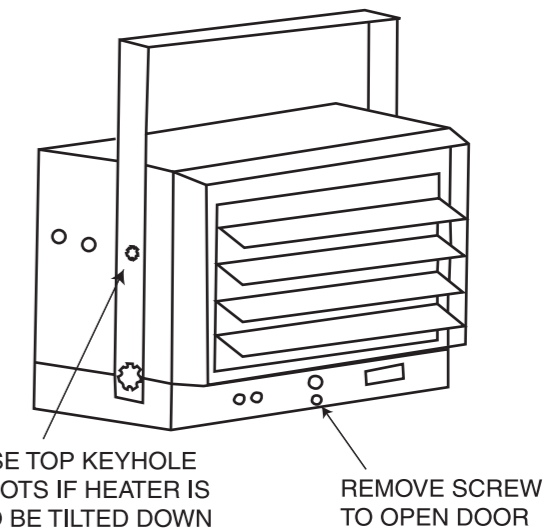

Figure 5
- If the heater is to be tilted, it must be positioned in the keyholes slots (see figure 5)
- Tilting the unit** -Loosen the bracket screws (see figure 5).